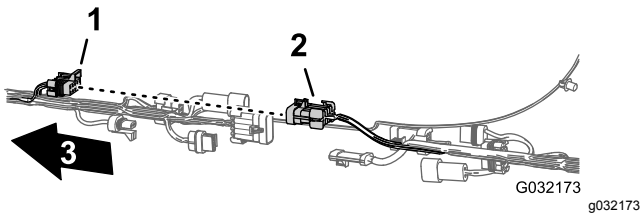
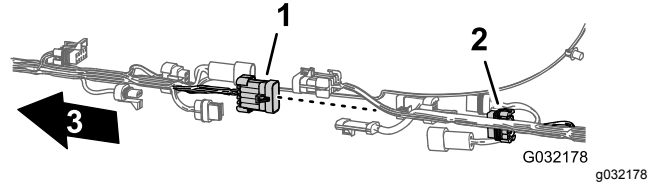

Figure 15
Figure 20
2. Disconnect the 6 pairs of connectors between the front and rear wire harnesses as shown in Figure 15 through Figure 20.